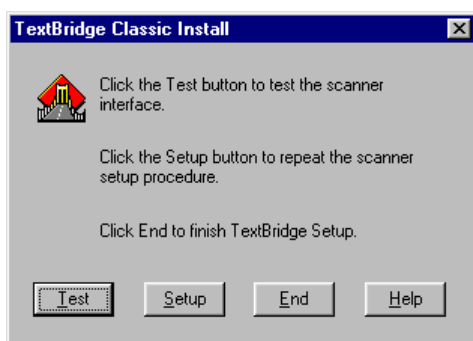

Figure 8: Finish installation
13. Select 'Trust SCSI Scan 19200 Excellence Series / 32' from the list and click 'Select'. A window as in figure 8 is displayed.